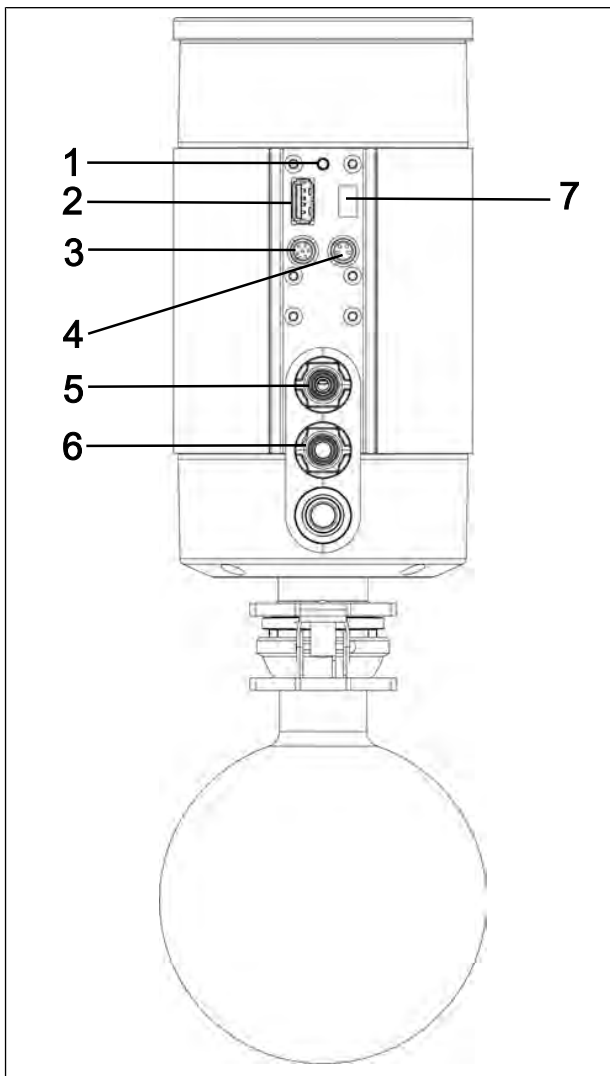

Fig.23: Separator SC
If the Paging button (Fig. 23/1) on the vacuum system is pressed and held for about 5 seconds, the vacuum controller responds to the vacuum system Paging button with an acoustic signal (see Chapter 9.2.2 *Operation without the vacuum controller* [ 72]).
3. Press the Pairing button (Fig. 23/1) on the pump for about 10 seconds.
If the vacuum controller has been removed, the following action can be carried out directly at the vacuum system (Fig. 23):